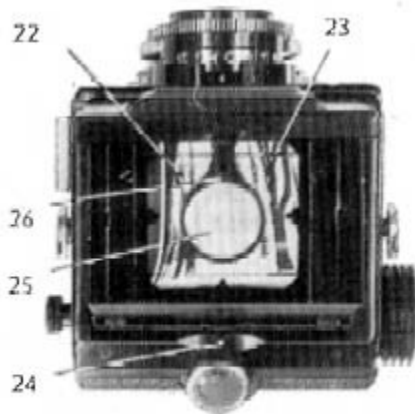

Fig. 5
Looking to the viewfinder determine the frame limits for 4.5 \* 6 cm picture size, limiting marks (23) [Fig.5] are put down on the field lens] and with the focusing reach the required sharpness at the ground glass circle. If the object image that is required to get most sharp should be located at the picture edge turn the camera while focusing so that the object image was in the center and prior to the shutter release return the camera to the initial position.